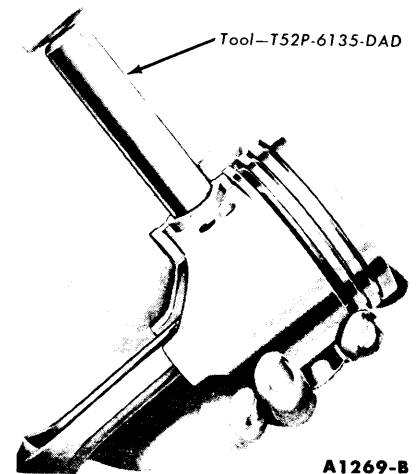

FIG. 44—Piston Pin Removal
2. Remove the piston rings. Remove the piston pin retainers. Drive the pin out of the piston and connecting rod (Fig. 44). Discard the retainers.